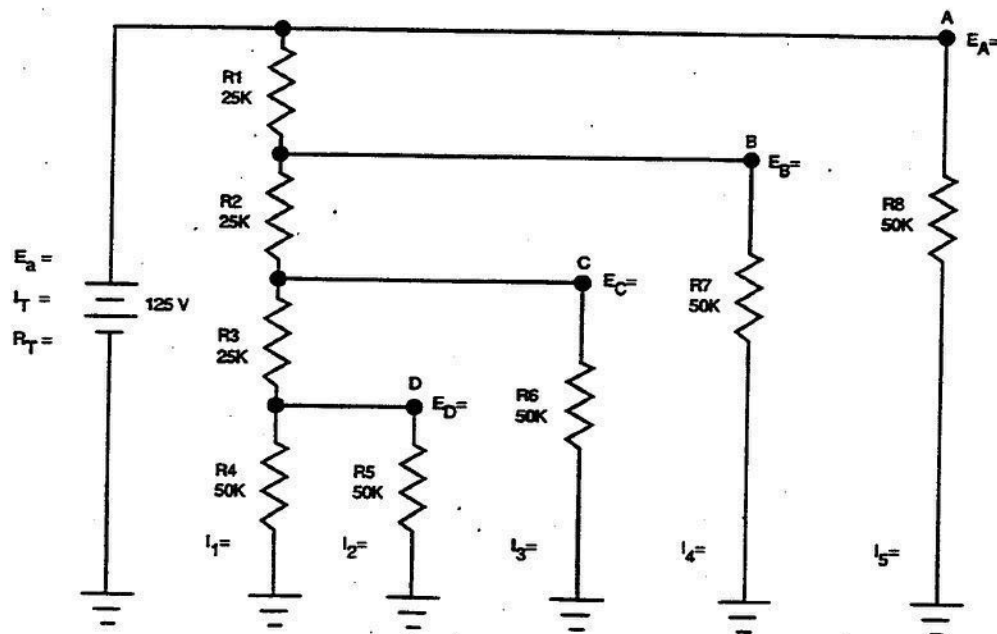

Figure 2-55. Lesson 023, self-test question 14 and 17.
14. How many paths are there for current flow in the loaded voltage divider depicted in figure 2-55?
17. Using the circuit in figure 2-55, calculate the unknown values.